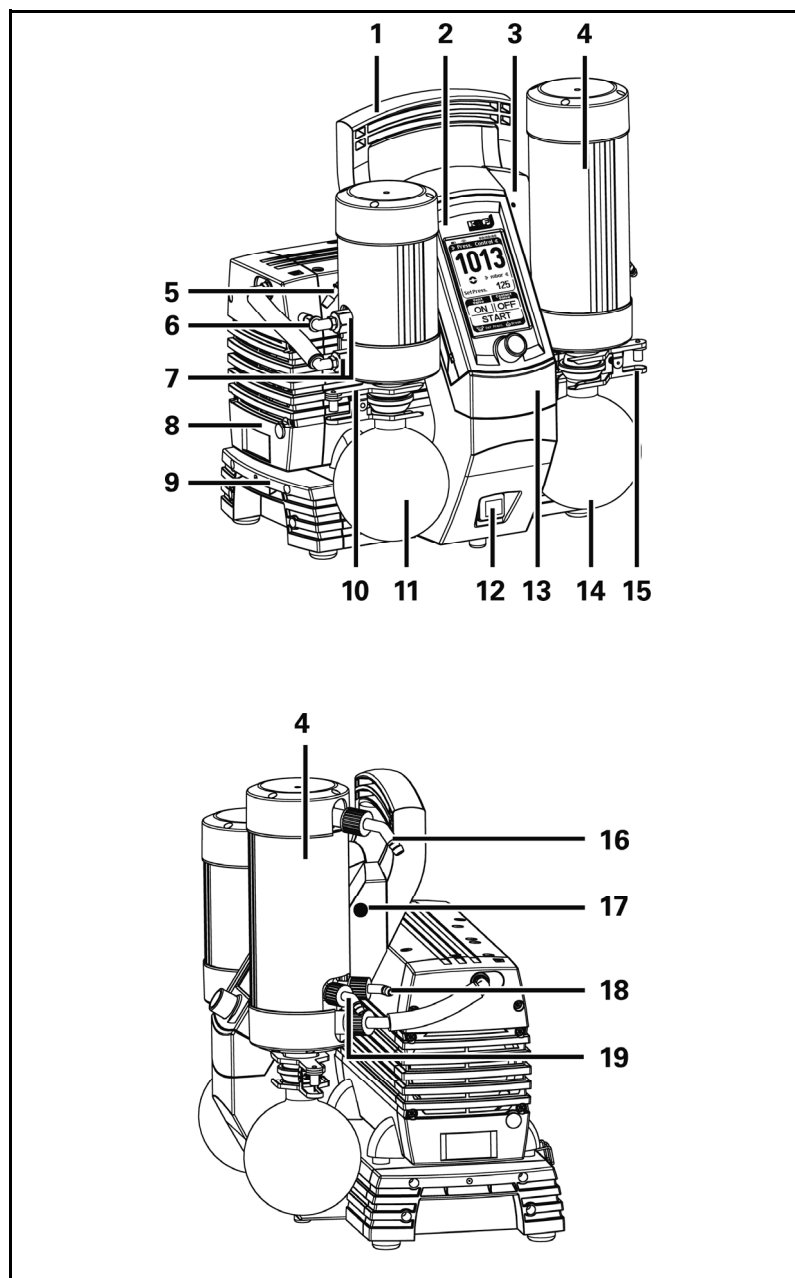

Fig. 2: Vacuum pump system SC 920
Ventilating the vacuum pump system	When ventilating the vacuum pump system with air or inert gas, be sure to prevent formation of reactive or explosive media. The maximum permissible operating pressure at the ventilation connection (Fig 2/5, page 11) is 0.1 bar g.
Collection flask (Fig. 2/11) collects on the suction side of the pump particles and drops that were, contrary to the requirements of the pump, suctioned from the vacuum chamber. The collection flask is coated (implosion protection) and fastened to the vacuum pump system via a flask clip.
Solvents deposited in the high-performance condenser are collected in the coated (for explosion protection) collection flask (Fig. 2/14). A flask clip secures the glass flask to the condenser flange. A recirculating cooler or continuously flowing cold water cools the high-performance condenser to the condensation temperature.
- 1. Loosen the set screw (Fig. 2/3, p. 11).
- 2. Pull out the pin of the transport fastener (Fig. 2/17, p. 11) as far as the limit stop.
1. Connect the vacuum chamber to the gas inlet's hose connector (Fig. 2/6, page 11, for hose inside diameter of 10 mm). For this, vacuum tubing must be used.
2. Connect hose to high-performance condenser in order to discharge gas exhaust (Fig. 2/16, page 11, for hose inside diameter of 10 mm).
3. Attach coolant feed and return to high-performance condenser (Fig. 2/18 and 19, page 11, for hose inside diameter of 8 mm).
4. If necessary: Connect inert gas supply to ventilation connection (Fig. 2/5, page 11). Observe the safety instructions in chapter 3.